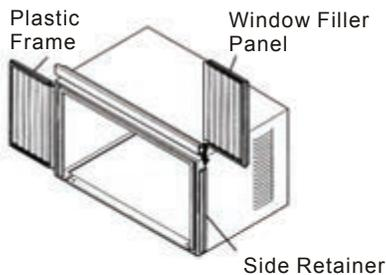
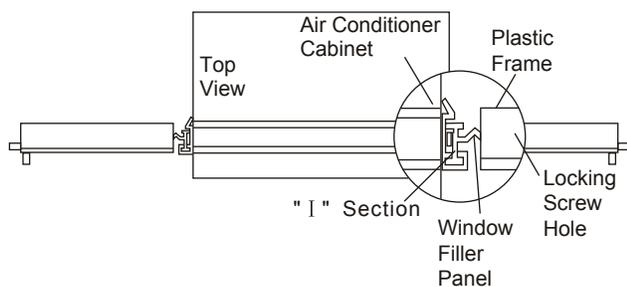

Fig.9
Fig.10
2. Slide "I" section of window filler panel into side retainer on the side of the cabinet. (See Fig. 9 and Fig. 10.) Do both sides.